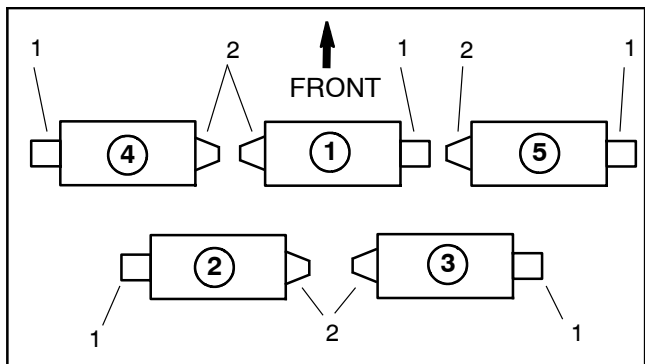

Figure 6
**IMPORTANT:** When installing cutting unit to machine, make sure that turf compensator spring is mounted on the same side of the cutting unit as the hydraulic reel drive motor. Also, make sure that cutting unit is installed on machine with motor and weight properly orientated to machine (Fig. 6).